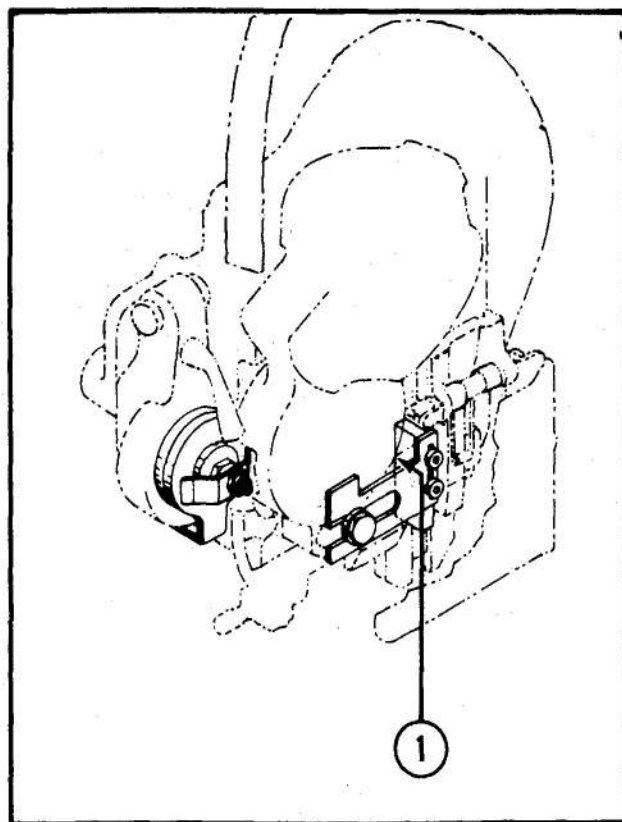

Figure 11—Cutter Block Scale
A length of wire draw scale, similar to that on the standard wire draw heads, is provided on the long wire draw head plates. In addition, another scale corresponding to the wire draw scale is provided on the cutter block and its holding plate, (1) Fig. 11. This scale provides a means of adjusting the staple left leg (positioning the cutter block) according to the wire setting. On these two scales the extreme right hand mark represents the maximum length of wire draw — i.e., on long wire draw head 2-3/8" (60.3mm). The other graduations in the scale do not represent any definite length of wire draw, but are used for setting the cutter block to coincide with the setting of the wire feed guard. If the wire feed guard is set at maximum wire draw—extreme right hand marking—the cutter block must be set at the same marking, etc.